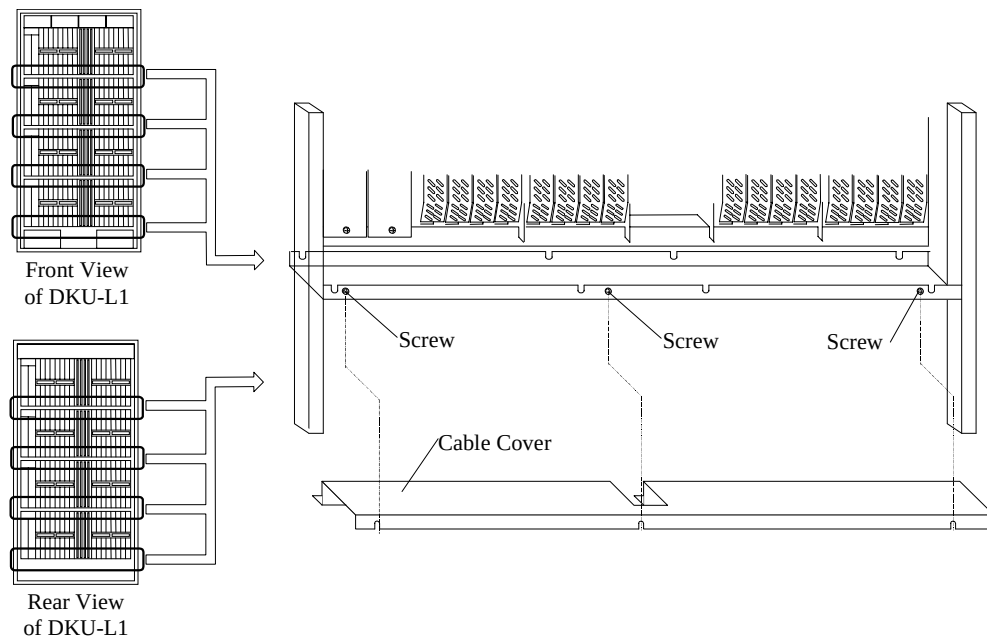

Fig. 3.11.6-2 Removal of Cable Covers
- c. Refer to Fig. 3.11.6-3 and Fig. 3.11.6-4. Connect the DEV interface cables to the sub-edges on the FSW PCBs in the HDU box.